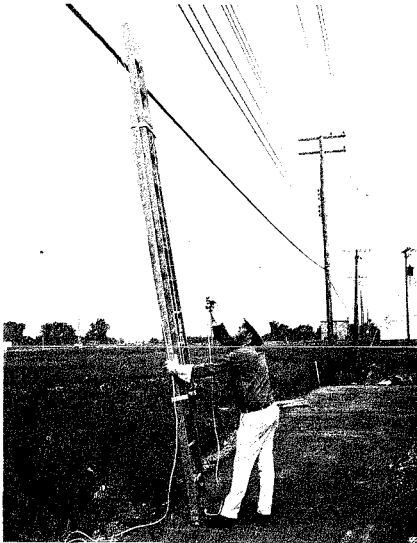

Fig. 26 — Extending Ladder
7.11 Standing in front of the ladder still holding the handline taut, grab the side rail. With the free hand untie the ladder extension rope. Pull on the ladder extension rope and extend the ladder until the second rung is above the strand. (See Fig. 26)